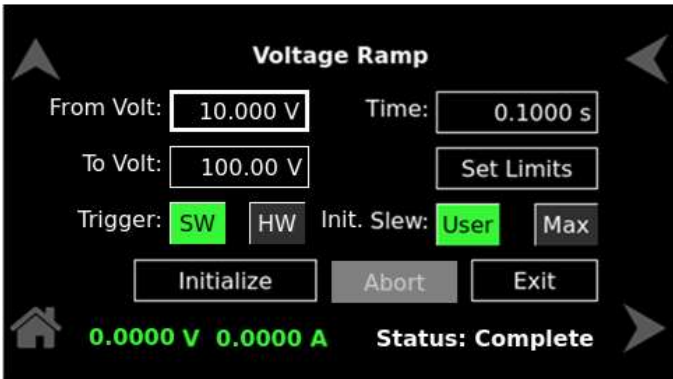

Figure 9-65. Status- Completed
- f) **Complete:** When the ramp execution (bringing the voltage from 'From Volt' to 'To Volt') is completed. Refer to Figure 9-65.